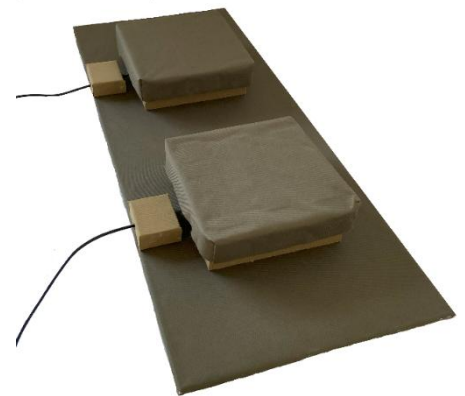

Figure 15 - Scales Platform without RFID block
- Cover the cable guides with canvas and secure to the base. Feed the scale cables through the cable guide. See FIGURE 15 - SCALES PLATFORM WITHOUT RFID BLOCK